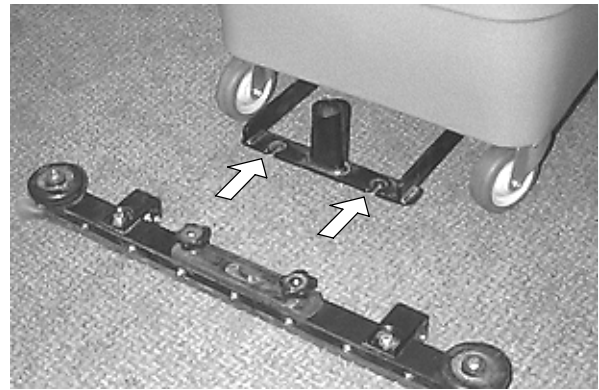

FIG. 7
9. Attach squeegee assembly to bracket as shown and secure with two thumb screws (Figure 7).